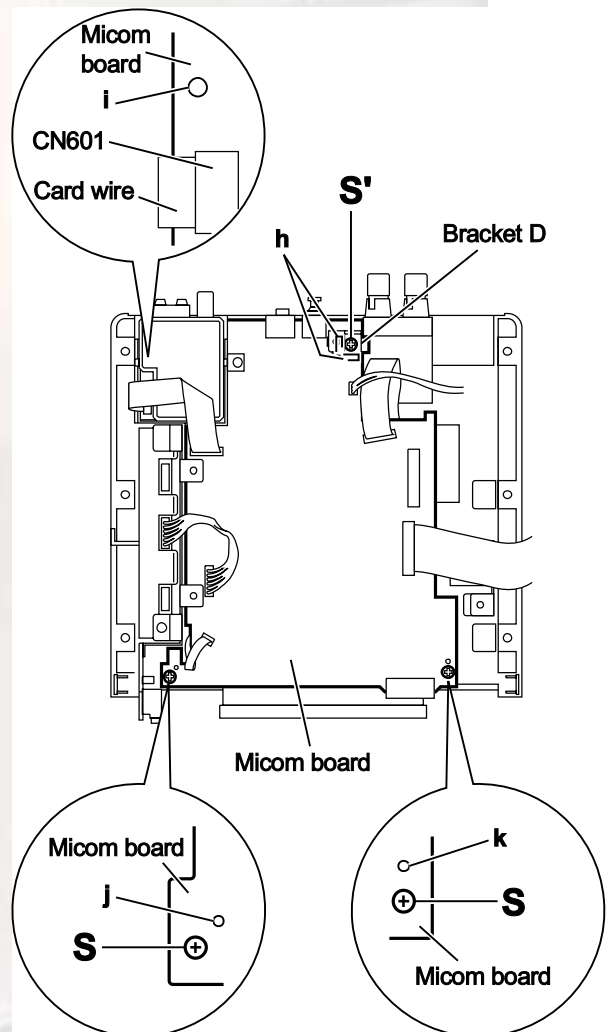

Fig.17
- Disconnect the card wire from the connector CN611 on the main board. (See Fig.17.) **[For A version]**
- Disconnect the card wire from the connector CN601 on the main board. (See Fig.17.) **[For B/E/EN/EV/EE version]**
- Remove the two screws S and screw S' attaching the micom board. (See Fig.17.)
- When attaching the screw S', attach the bracket D with it. (See Fig.17.)
- When attaching the micom board, attach the screw S and screw S' after fitting the holes of the main board to the joints (h,i,j,k) of the main body. (See Fig.17.)